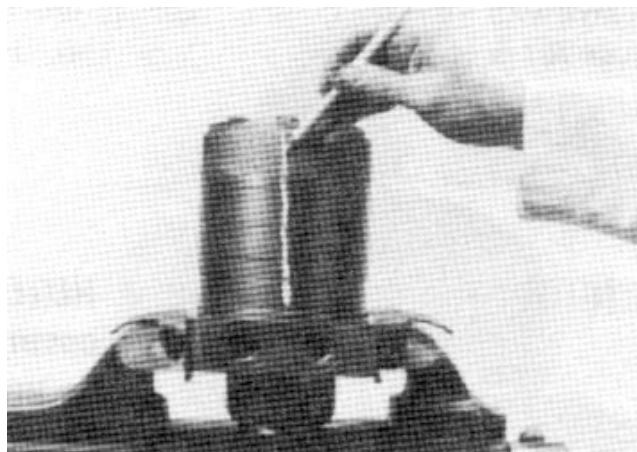

Figure 33
1. Place wheel motor in a soft jawed vise with the coupling shaft (11) pointed down and the vise jaws clamping firmly on the sides of the housing (3).
2. Scribe an alignment mark down and across the wheel motor components from the end cover (24) to the housing (3) for facilitating reassembly (Fig. 33). If included in end cover, loosen both shuttle valve plugs (left-hand motor only) for disassembly later.